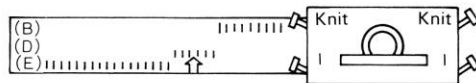

Fig.61
- Push back into position (D) from position (E) the required number of needles nearest the needles in position (B). (Fig.61) Knit one row. *